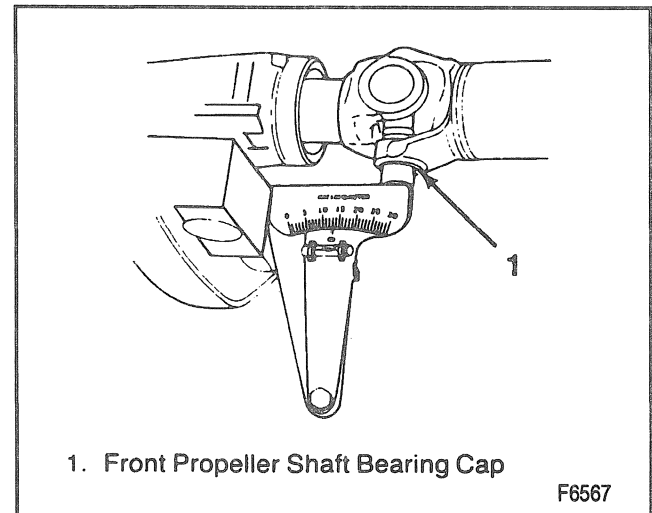

Figure 26—Measuring Front U-Joint Working Angle
1. Place the inclinometer on front propeller shaft bearing cap (Figure 26). Center the bubble in the sight and record measurement.